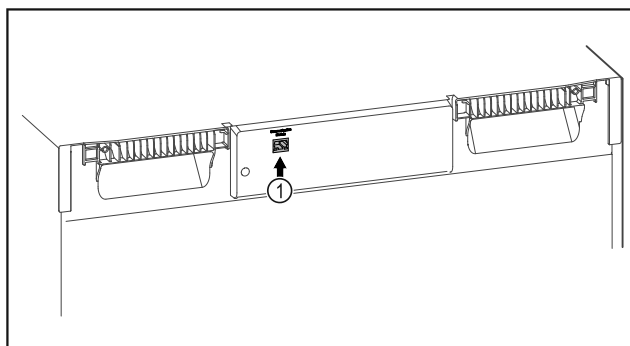

Fig. 96
- ❑ SmartModule Fig. 96 (1) is in use.